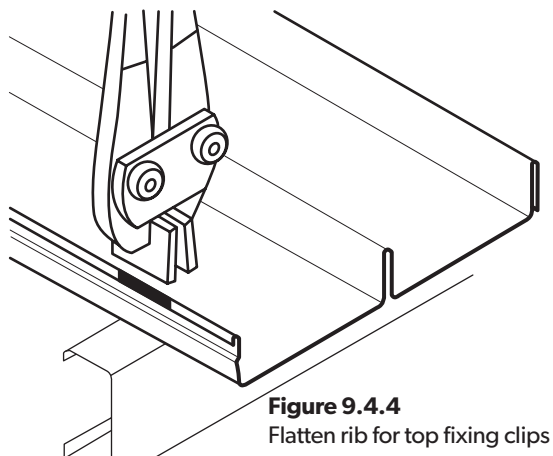

Figure 9.4.4
1. Using the rib closing tool, squash the male rib of the first (previous) sheet at each purlin where the top fixing clips will fit (Figure 9.4.4).